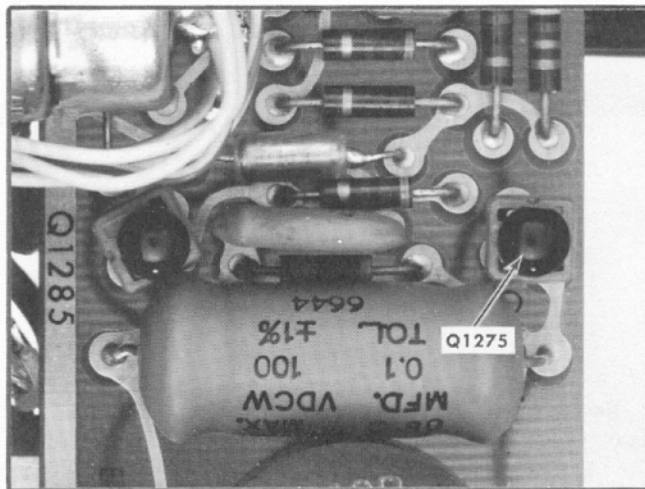

Fig. 6-5. Location of Q1275 (Calibrator circuit board).
①
b. Remove Q1275 (behind swing-out side panel; see Fig. 6-5) from the Calibrator board.